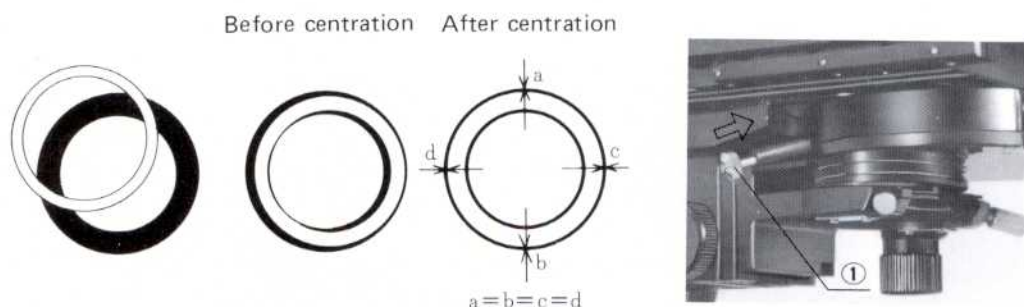

Fig. 2
- 6) Rotate the two light annulus centering knobs ① of the condenser until light annulus and phase annulus are concentric and superimposed. (Fig. 2)